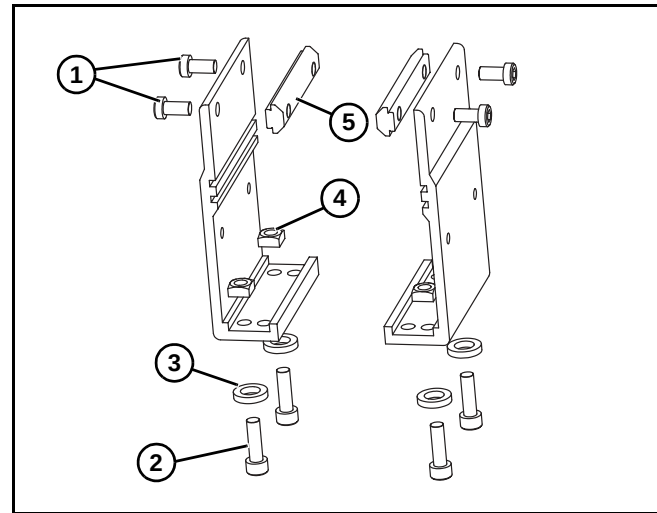
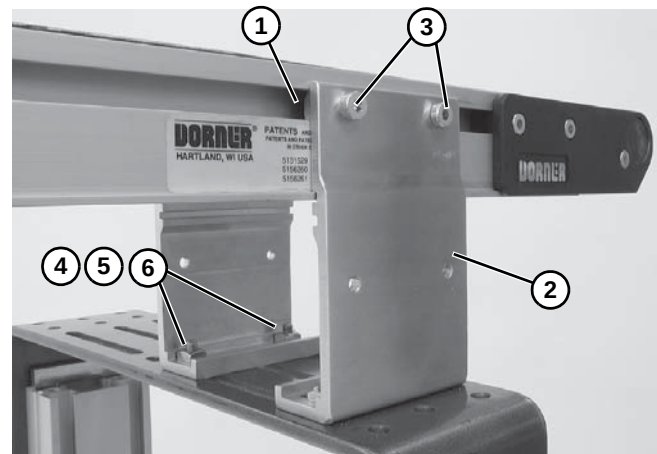

Figure 9
Figure 10
- Locate brackets. Exploded views shown in **Figure 9**.
- Remove screws (**Figure 9, item 1 & 2**), washers (**Figure 9, item 3**), nuts (**Figure 9, item 4**) and T-bars (**Figure 9, item 5**) from brackets.
- Insert T-bars (**Figure 9, item 5**) into conveyor side slots (**Figure 10, item 1**). Fasten brackets (**Figure 10, item 2**) to conveyor with mounting screws (**Figure 10, item 3**).
- Fasten brackets to support stand with mounting screws (**Figure 10, item 4**), washers (**Figure 10, item 5**) and nuts (**Figure 10, item 6**).
- Tighten screws (**Figure 10, item 3 & 4**) to 60 in-lb (7 Nm).